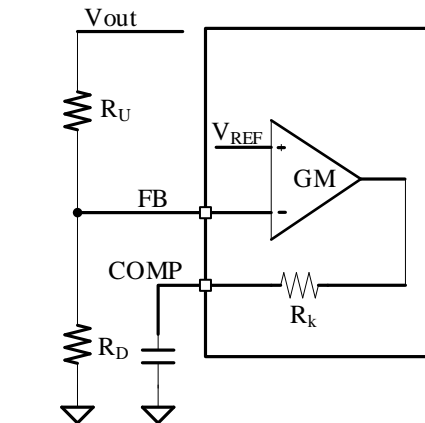

Figure 6 Output voltage feedback circuit
SY5072 regulates the boost output voltage using a trans-conductance internal error amplifier (EA). The inverting terminal of the EA is pinned out to FB. The non-inverting terminal is connected to an internal 1.25V voltage reference, and the EA output is pinned out to COMP (Fig.6).